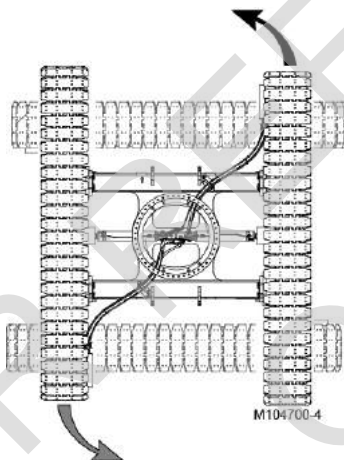

Figure 3-18. Counter-rotate Left
11. To COUNTER-ROTATE LEFT (Figure 3-18), move the right crawler control handle forward from the neutral position and move left crawler control handle back from the neutral position.